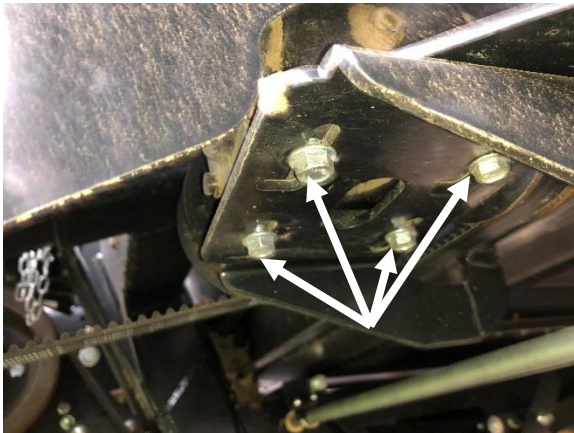

Figure 88
3. Loosen the bolts on the bottom of the gearbox. Remove the tension bolt and remove the belt from the gearbox. Figure 88